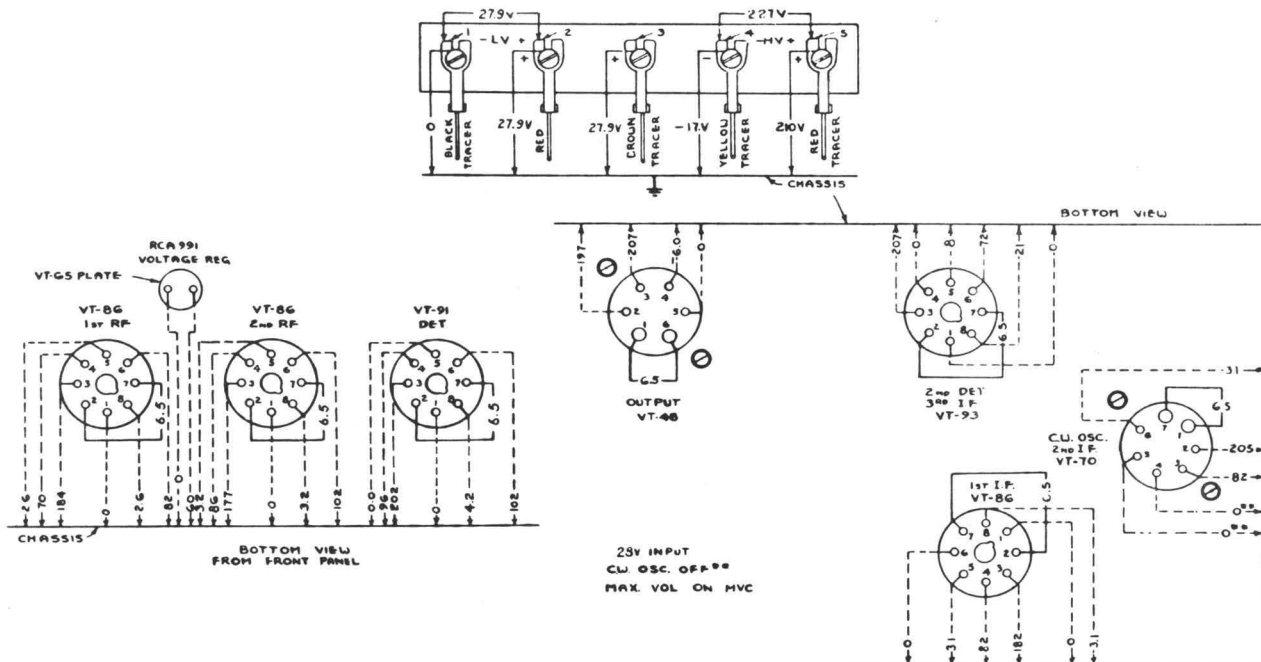

Figure 16—Radio Receiver BC-348-(*)
When all signals on all bands are weak or no signals are heard when known to be present, follow the procedure shown in the chart. The voltages checked at the dynamotor terminal board should closely approximate the values shown in figure 16. Conditions of measurement are as follows:
(2) TUBE CHECK.—If the voltages at the dynamotor terminal board approximate the values given, proceed to check all tubes for emission and characteristics or replace all tubes with those of known average characteristics.
(3) CHECK OF SOCKET VOLTAGES.—If tubes check satisfactorily, or if, after replacing with tubes known to be good, the sensitivity is still low, proceed to check all tube socket voltages with Test Set I-56-A as outlined in paragraph 14f. The average socket voltages are given in figure 16.
(4) CHECK CIRCUIT WIRING AND COMPONENTS.—If the tube socket voltages do not approximate the values shown in figure 16, check the associated circuits and components for grounds, shorts and similar defects.
(5) TEST OF AUDIO-FREQUENCY AMPLIFIER.—Having checked all socket voltages and found the values to be correct, proceed to the test of the audio frequency amplifier. This can be checked by capacitively coupling a 400-cycle voltage of approximately 2 volts rms between ground and the detector diode socket prong using a capacitor of 0.5 mfd. As an alternative, a modulated 915-kc signal of 2 volts may be coupled to this point and ground. Proper functioning of the audio amplifier will be indicated by an output well over 10 milliwatts for the 2-volt audio input or approximately 1 milliwatt output for 915-kc input. Check circuits, wiring and components if this order of response is not obtained. The audio signal (modulated) from the I-72 signal generator, approximately 1.2 volts, may be used. An output of approximately 7.5 milliwatts (1.5 volt with a 300 ohm load) will be obtained.
(6) TEST OF I-F AMPLIFIER.—Following a satisfactory test of the audio amplifier, check the inter-